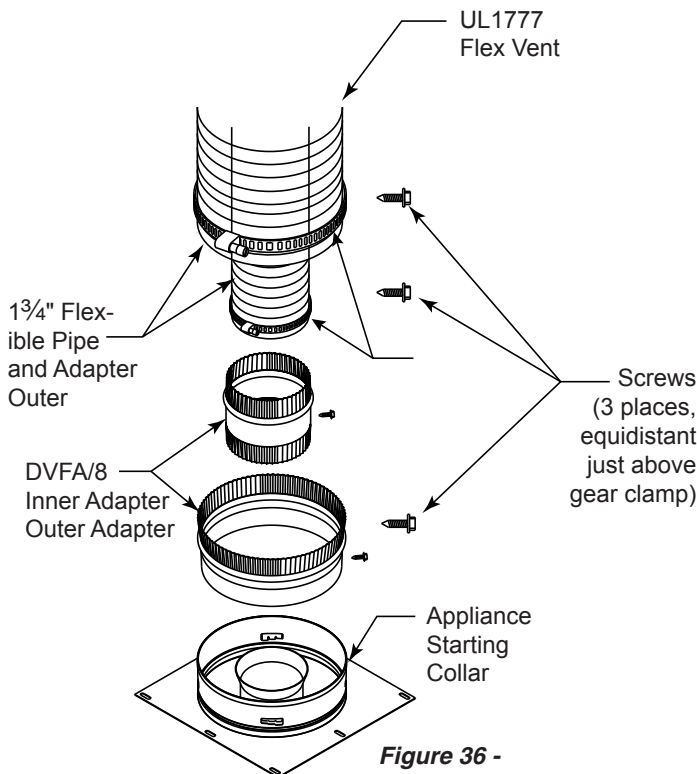

Figure 36 - Typical Appliance Connection
2. The flex adapter starter kit (DVFA/8) is used to attach flex venting to the appliance starting collar. It includes 5" inner and 8" outer adapter rings. *Figure 36*
- B. Installing the outer flex pipe. *Figure 36*